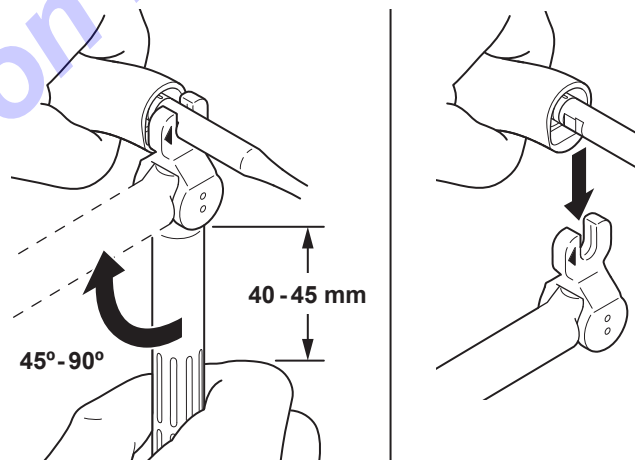

Figure 83 – Tip Tightening
3. Using the torque wrench, apply rotational force in the direction of the arrow (Figure 83). Stop tightening the tip as illustrated.
4. Remove the torque wrench in the torqued position from the tip (Figure 83).